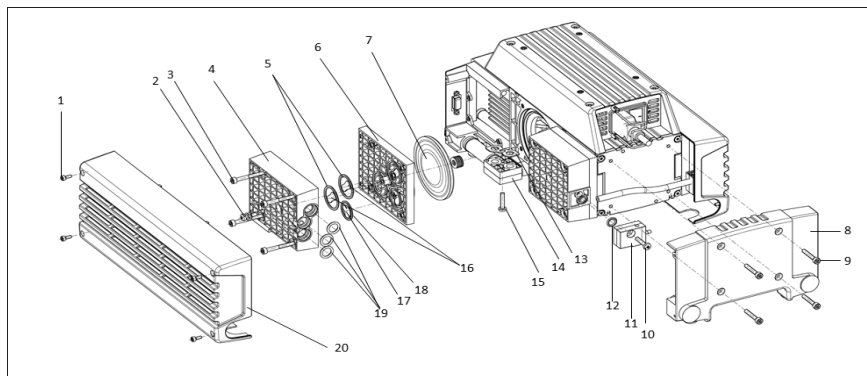

Fig. 4: Exploded drawing PJ25481-950.50.18
1. Undo the eight screws (Fig. 4/1) and remove the head covers (20).
9. Undo the 16 attachment screws (Fig. 4/3) on the heads (1 to 4) and remove the heads (1 and 2 as well as 3 and 4).
5. Place heads 1 and 2 and heads 3 and 4 onto the compressor housing; alternately tighten attachment screws (Fig. 4/3) to hand-tightness (tightening torque: 3.5 Nm).
9. Reinstall the head covers (Fig. 4/20):